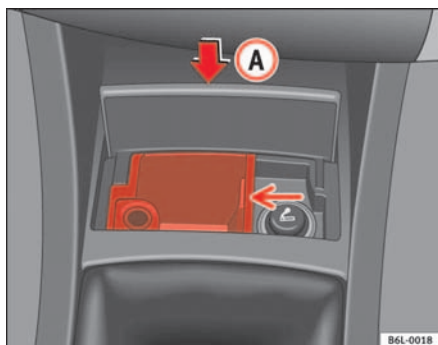

Fig. 81
- Press the lower part of the ashtray cover (A) ⇒ fig. 81 and it will open automatically with a spring action.